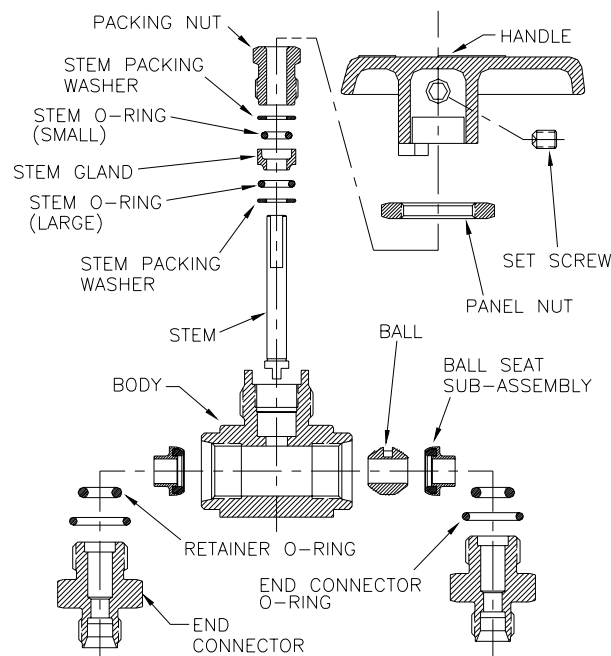

Figure 6: Ball Valve with O-Ring Stem Packing Assembly Exploded View
3. Refer to Figure 6. Stack the five Stem Packing components on the Stem in the following order, with the first item being placed at the bottom of the Stem: